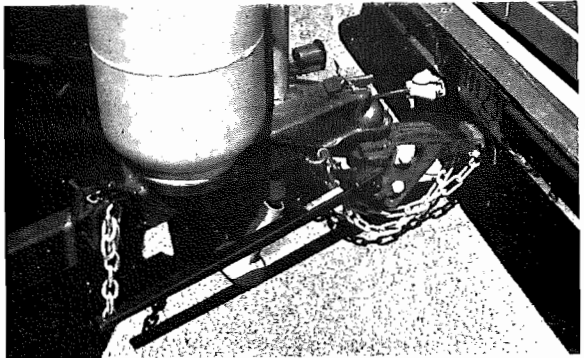

Fig. 12
**CAUTION:** Retract the hitch jack completely for maximum ground clearance. Remove the jack pad (See Fig. 12) and stow in the car's trunk along with leveling jack and other gear used when stopped. NEVER TOW YOUR TRAILER WITH THE JACK DOWN. Check that the fold-away step is up and that the main door is completely closed and LOCKED for towing. If it is not locked the constant vibration of travel may cause it to open with possible damage.